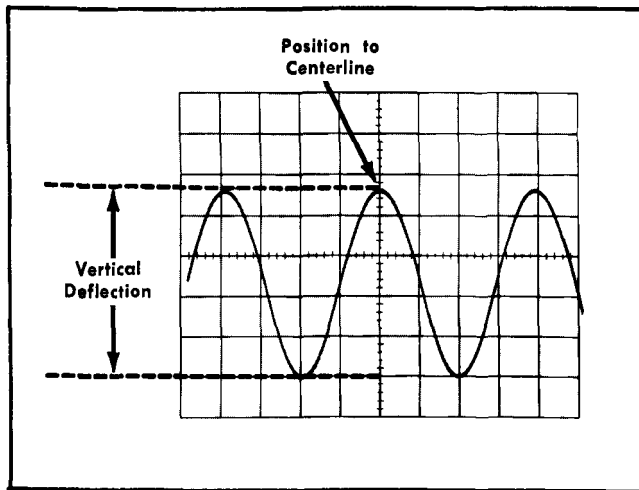

Fig. 2-9. Measuring peak-to-peak voltage of waveform.
5. Turn the VERTICAL POSITION control so the lower portion of the waveform coincides with one of the graticule lines below the center horizontal line, and the top of the waveform is on the viewing area. Move the display with the HORIZONTAL POSITION control, so one of the upper peaks lies near the center vertical line (see Fig. 2-9).
Example. Assume a peak-to-peak vertical deflection of 4.6 divisions (see Fig. 2-9) using a 10X attenuator probe and a VOLTS/DIV switch setting of .5. Using the formula: